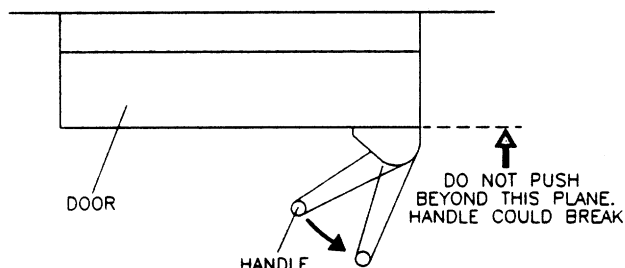

Figure 8: Door Release
3. Pull the door handle to the right. This releases the door latch (see Figure 8).